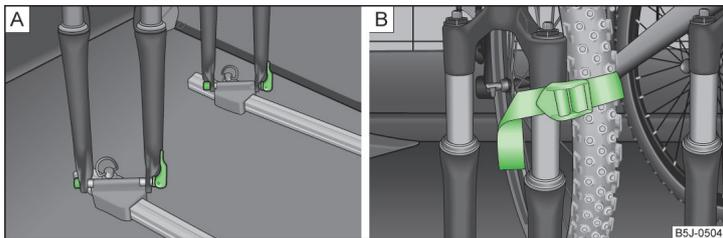

Fig. 75 Put in the bicycle/example fastening the front wheel
- › Place the bicycle fork on the fixing axle and tighten with the quick release lever » Fig. 75 - **A**.
- › It is best to store the removed front wheel between the left crank and the bicycle frame, attach it with a strap to the front fork » Fig. 75 - **B** or to one of the fixing points.